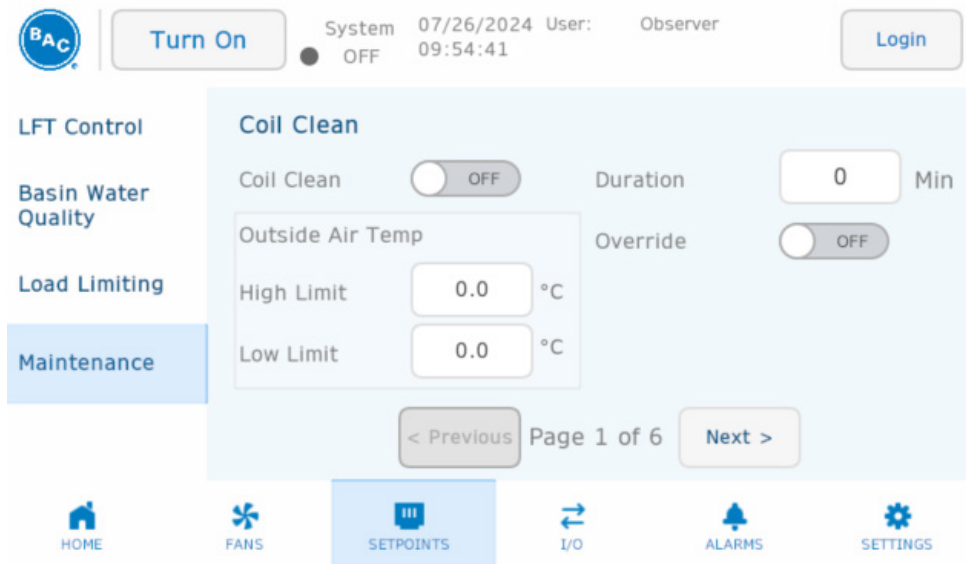
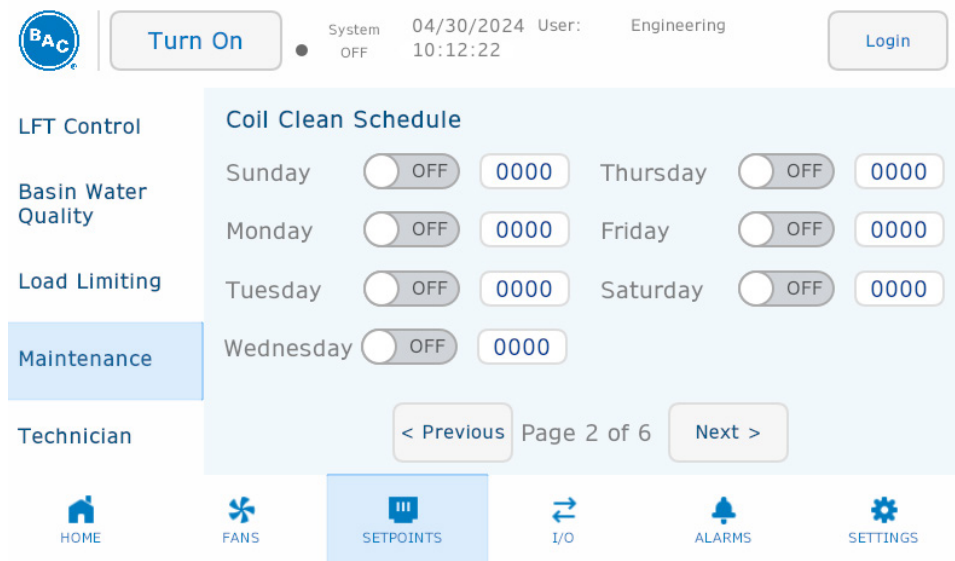

Figure 70. Setpoints Menu, Maintenance Page 1 of 6
Figure 71. Setpoints Menu, Maintenance Page 2 of 6
- Coil Clean maintenance mode shown in **Figure 70** and **Figure 71** with parameters listed in **Table 19**.